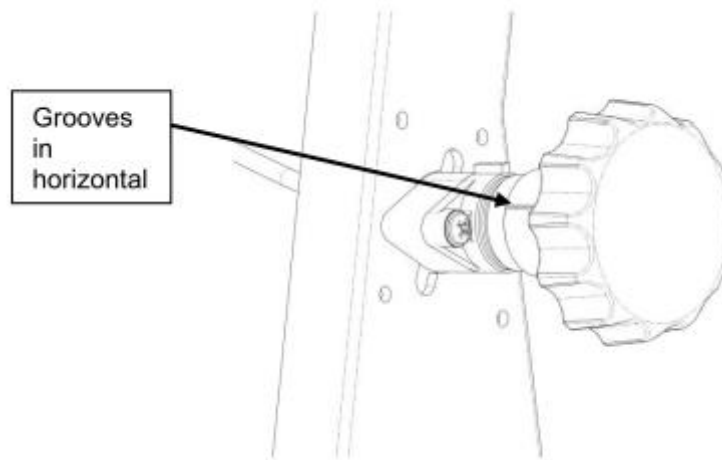

**Figure 3.6 Headrest Spring Removal**
- N. Remove the headrest assy by pushing down the backrest cover on the backside of one of the plastic headrest guides and pull the spring out directly aft from underneath the upper part of the guide. Remove the headrest assy out of the seat frame then remove upper headrest guide. See Figure 3.6.